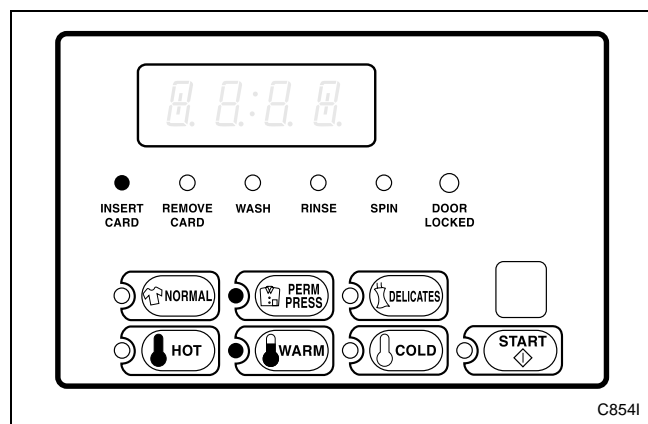

Figure 1
1. Be sure the washer-extractor is in the Ready Mode before continuing to step 2. Refer to *Figure 1*. If the washer-extractor is in an active cycle, rapid advance through the cycle. Refer to **Rapid Advance Feature** section of the Basic Programming Guide. If coins have been entered, refer to **Clear Vend Feature** section of the Basic Programming Guide.